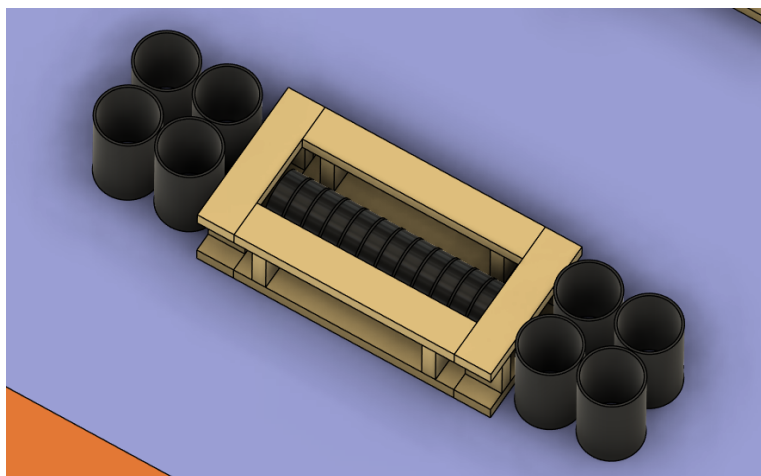

Figure 5: Fences, Bulls, and Barrels Starting Location
- 4.2.1.5. There are twelve (12) bulls surrounded by the fences located between the starting zone and the lasso platform, as shown in Figure 5.